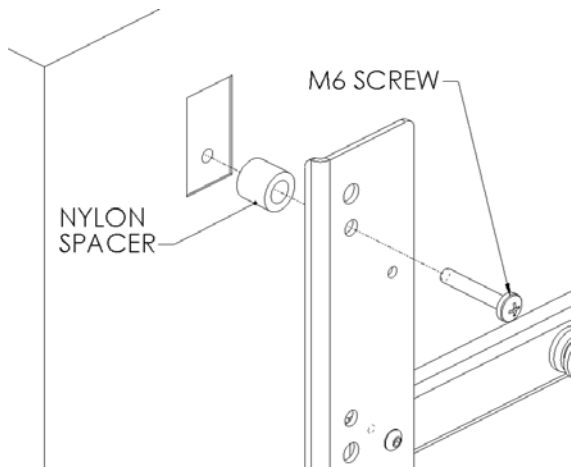
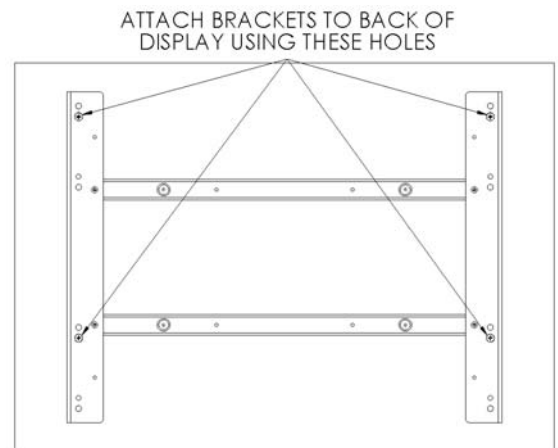

Figure 8
Figure 9
5. **Bracket Installation:** Place nylon spacers over mounting holes of screen and attach brackets to back of display using the M6 screws (see Figure 8 and Figure 9). Do not over tighten screws.